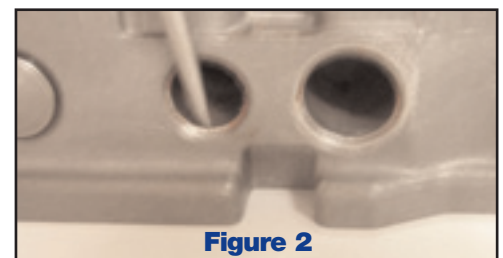

Figure 2
2. Inspect the bottom of the “cast-in” chamfer at each bore that will receive an o-ringed end plug. Most valve bodies will have a small ridge at the entry of the valve bore. The ridge is difficult to see with the naked eye but can be located by carefully dragging a sharp “pick” down the chamfer (see Figure 2).